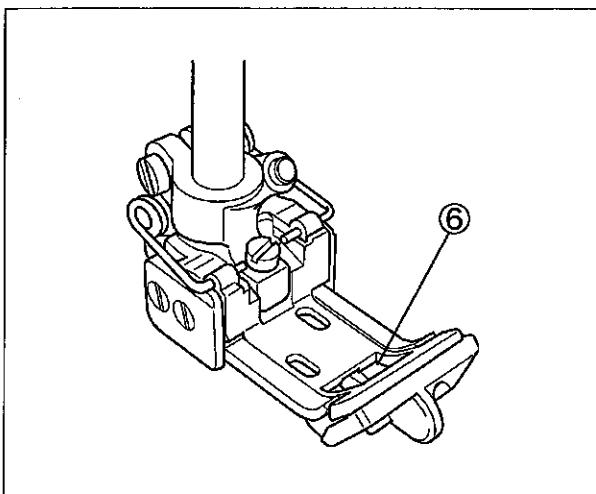

Fig. 10
Refer to Fig. 9, pass the tape from the tape reel ③ through the tape guide (upper) ④ and the folder ⑤. Then pass the tape through the hole ⑥ of presser foot and pull the tape from behind so that it may pass the bottom of the presser foot. (Fig. 10)